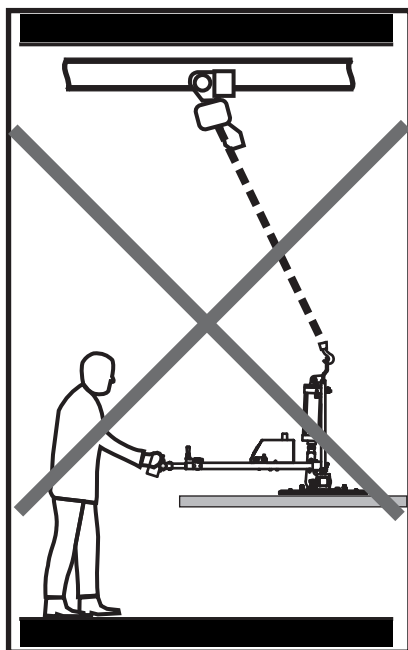

Figure 05
- The load is pulled diagonally (see Figure 05 on page 6) .